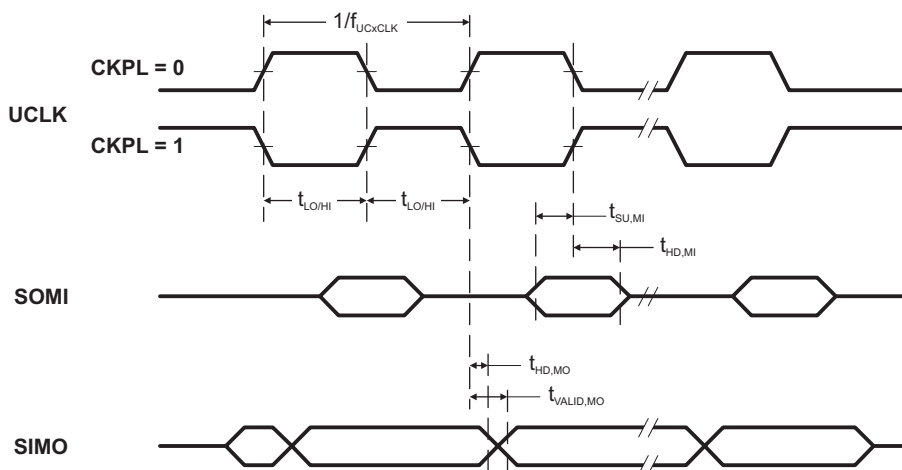
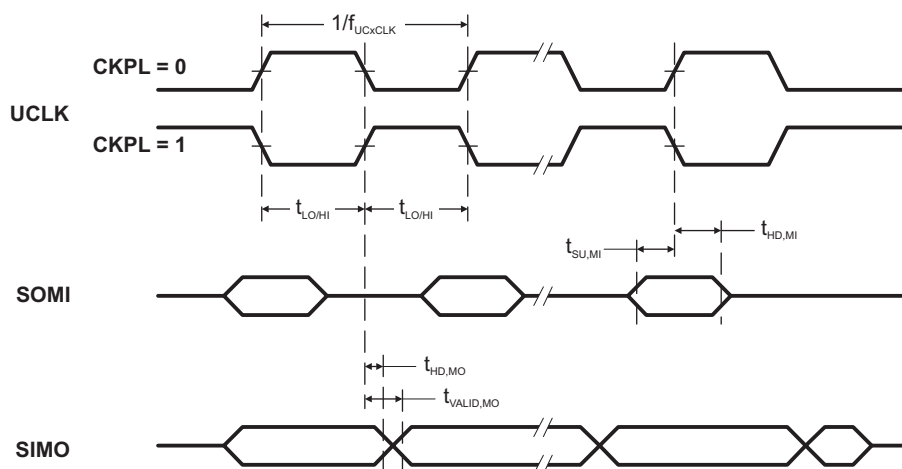

Figure 5-11. SPI Master Mode, CKPH = 0
Figure 5-12. SPI Master Mode, CKPH = 1
(see Note ⁽¹⁾, Figure 5-11 and Figure 5-12)
(2) Specifies the time to drive the next valid data to the SIMO output after the output changing UCLK clock edge. See the timing diagrams in Figure 5-11 and Figure 5-12.
(3) Specifies how long data on the SIMO output is valid after the output changing UCLK clock edge. Negative values indicate that the data on the SIMO output can become invalid before the output changing clock edge observed on UCLK. See the timing diagrams in Figure 5-11 and Figure 5-12.